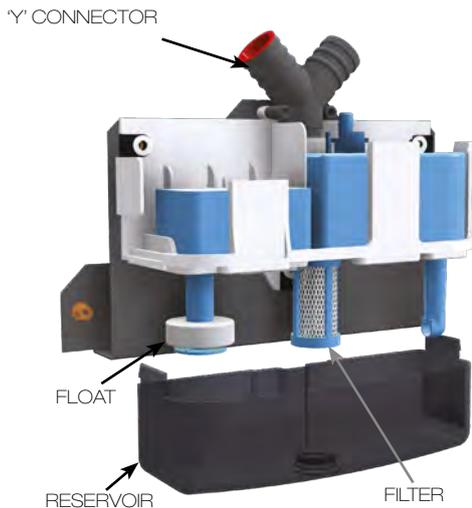

FIGURE 24. CONDENSE PUMP
- 17.9.1 Refer to section 16.3. See Figures 24 & 28.